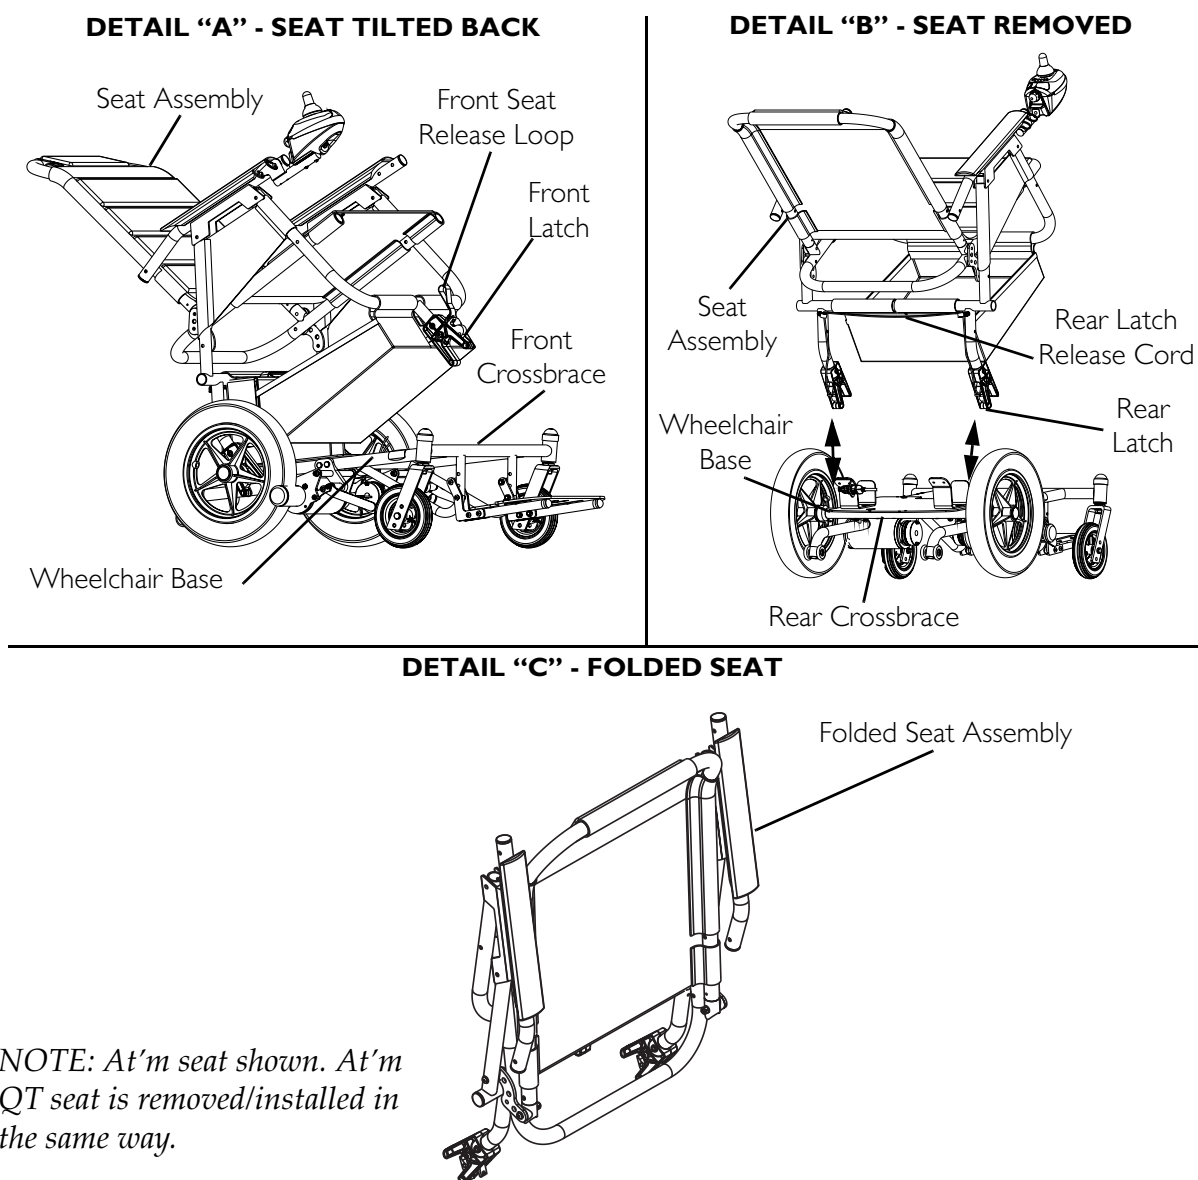

FIGURE 5.1 Removing/Installing the Seat
NOTE: For this procedure, refer to FIGURE 5.1 on page 32.
3. Pull up the front latch release loop and tilt the seat assembly back. Refer to Detail "A" of FIGURE 5.1.
4. Pull up the rear latch release cord with the other hand and lift the seat assembly off and away from the wheelchair base. Refer to Detail "B" of FIGURE 5.1.
5. Fold the seat assembly. Refer to Detail "C" of FIGURE 5.1.